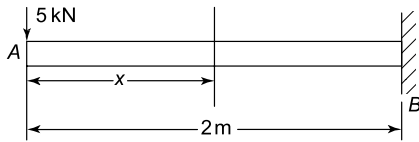

Figure 7.22
**Problem 4.** Calculate and plot the bending moment and shearing force distributions for the cantilever of Figure 7.22.
In the cantilever of Figure 7.22, the left hand end is free and the right hand end is firmly fixed; the right hand end is called the **constrained end**.
At  $x$  in Figure 7.22,  $M = -5 \text{ kN} \times x$
At  $x$  in Figure 7.22,  $F = -5 \text{ kN}$  (a constant) (7.22)